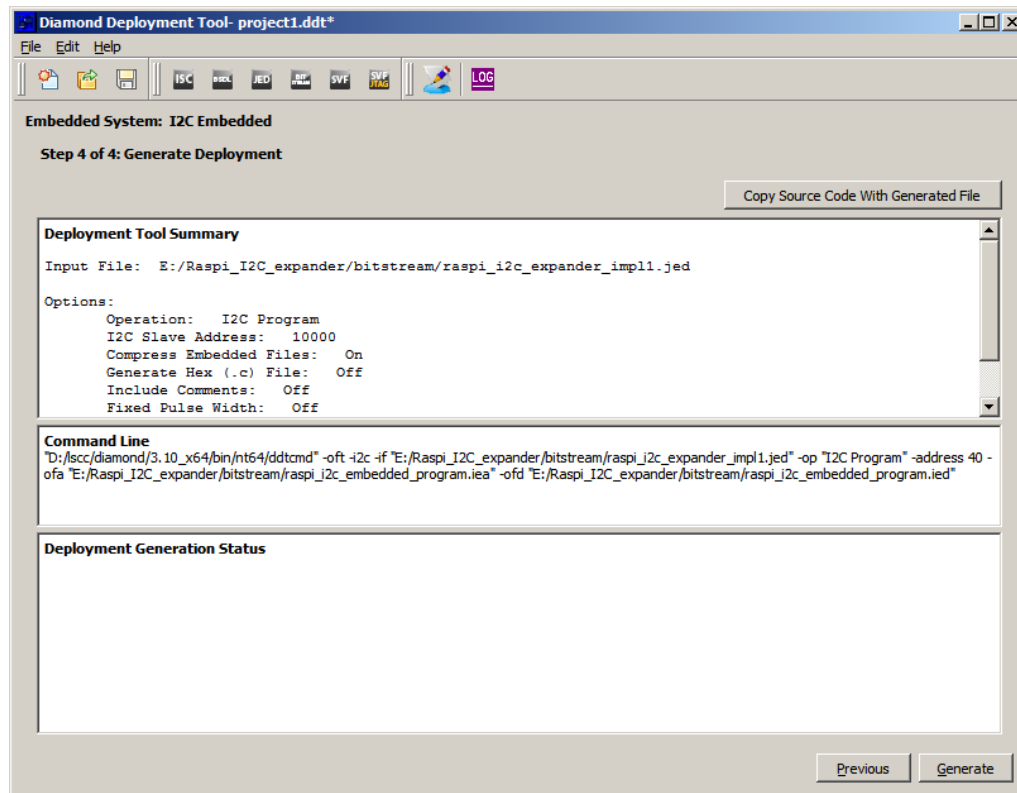

Figure 10.8. Re-generating the Algorithm File and Data File
8. Click **Generate** to re-generate the Algorithm file and the data file for the Program Only operation of the I2C Embedded programming (Figure 10.8).